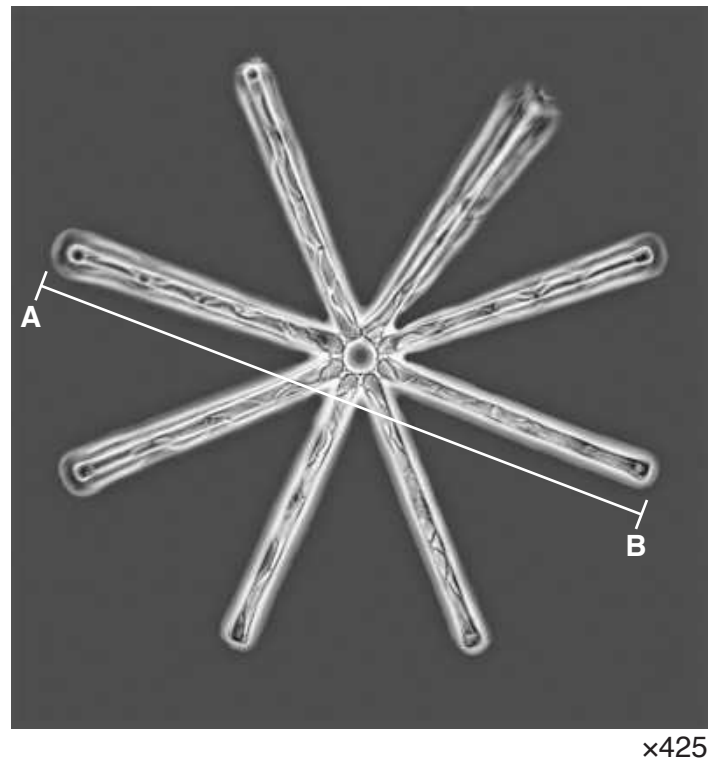

Fig. 2.1
2 Fig. 2.1 shows *Asterionella*, which are microscopic algae that live in fresh water.
- (ii) Measure the length of the line **AB** in Fig. 2.1. Include the unit.
Use the formula to calculate the actual diameter of the algae shown in Fig. 2.1. Include the unit.